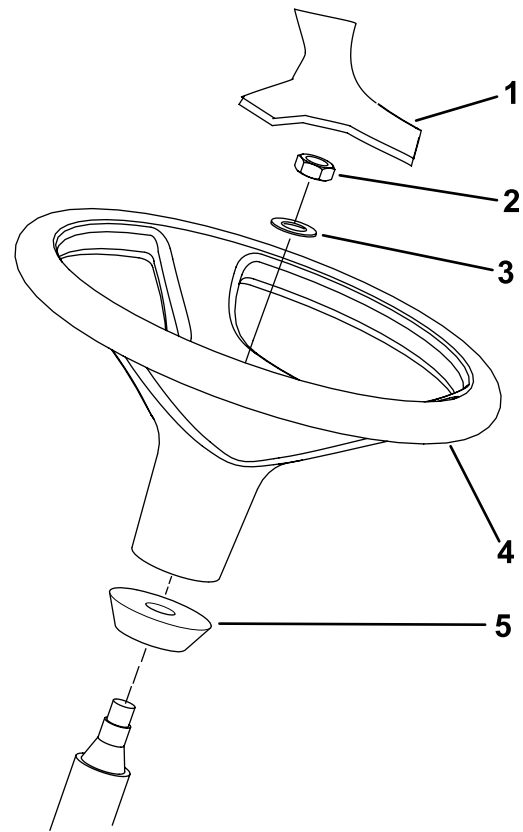

Figure 12
1. Remove the steering wheel from the shipping skid (Figure 12).
Note: Ensure that the foam collar remains on the steering shaft (Figure 12).
3. Slide the steering wheel and washer onto the steering shaft (Figure 12).
5. Mount the cover to the steering wheel (Figure 12).